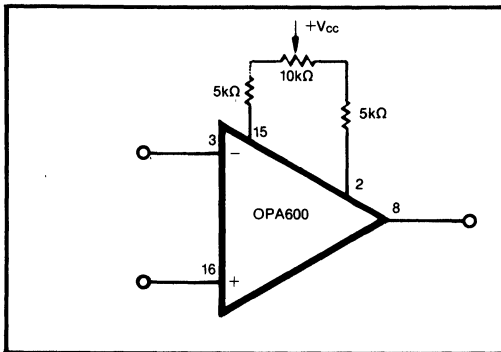

FIGURE 4. Offset Null Circuit.
NOTES (1) Refer to Figure 4 for recommended frequency compensation (2) Connect pin 9 to pin 12 and connect pin 7 to pin 6 for maximum output current. See Application Information for further information. (3) Bypass each power supply lead as close as possible to the amplifier pins. A 1µF CS13 tantalum capacitor is recommended. (4) There is no internal connection. An external connection may be made. (5) It is recommended that the amplifier be mounted with the case in contact with a ground plane for good thermal transfer and optimum AC performance.
The offset voltage of the OPA600 may be adjusted to zero by connecting a 5k Ω resistor in series with a 10k Ω linear potentiometer in series with another 5k Ω resistor between pins 2 and 15, as shown in Figure 4. It is important that one end of each of the two resistors be located very close to pins 2 and 15 to isolate and avoid loading these sensitive terminals. The potentiometer should be a small noninductive type with the wiper connected to the positive supply. The leads connecting these components should be short, no longer than 0.5-inch, to avoid stray capacitance and stray signal pick-up. If the potentiometer must be located away from the immediate vicinity